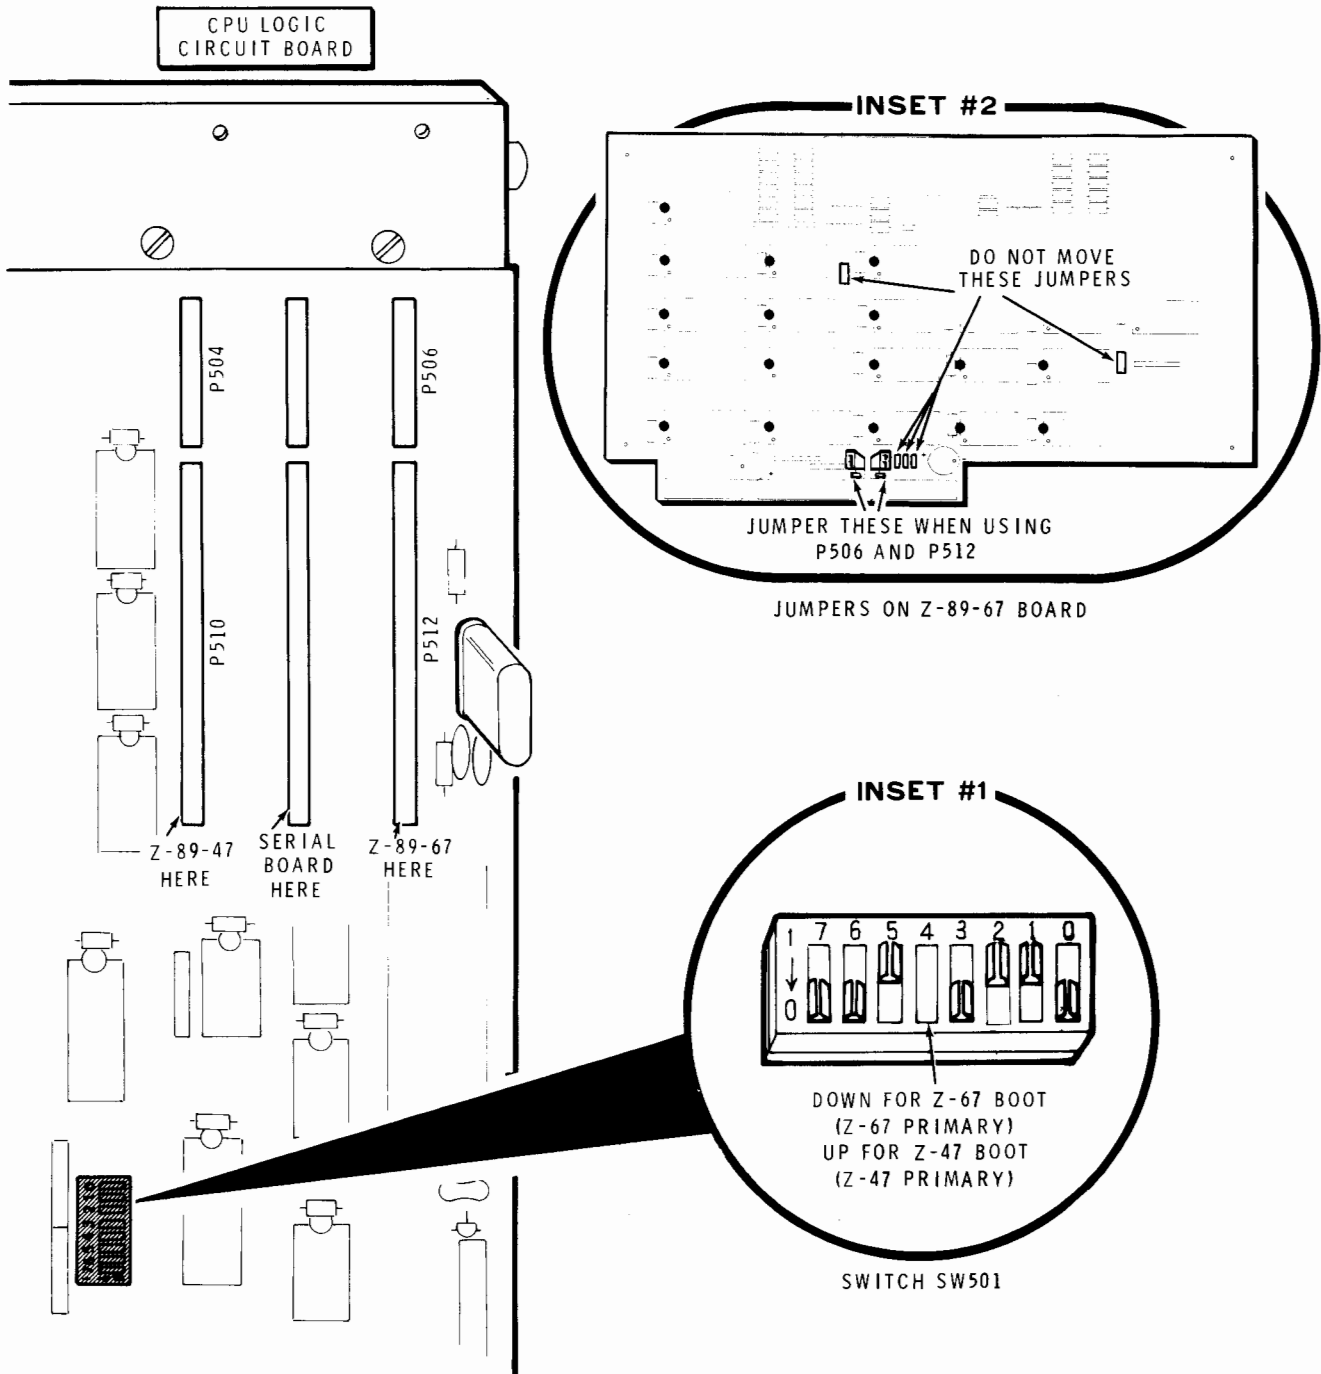

Figure 6-7
3. A **Z-89-47 Interface Board**, you must install your Z-89-67 Interface Board as shown in Figure 6-7 on Page 6-10. Set switch SW501 as shown in inset drawing #1, and the jumpers as shown in inset drawing #2.